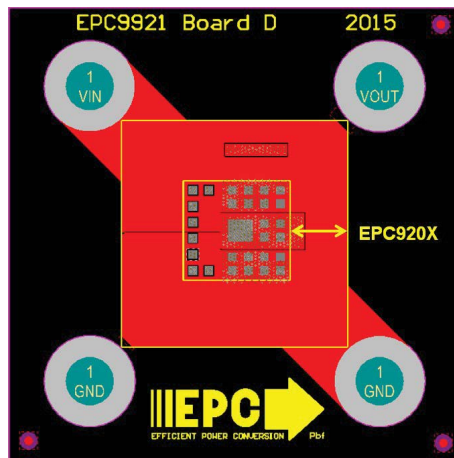

Figure 8: Top layer without filled thermal vias.
1. Large copper planes should be connected to the development board to improve thermal performance as shown in figures 8 through 11. If filled vias are used in the board design, thermal vias should be placed under the device as shown in figure 8 to better distribute heat through buried inner layers. For a design without filled vias, thermal vias should be located outside of the development board.